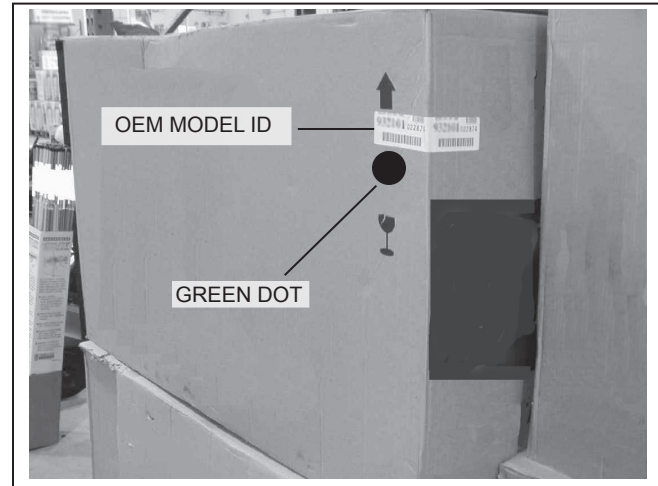

Figure 4
3. **If the product is not affected**, apply a BRIGHT GREEN 1" (25mm) diameter self-adhesive label (if labels are not available, a GREEN paint pen may be used) below each of the OEM's model identification decal or markings on the box containing the **unaffected** product (this may be as many as 4 locations per box - see fig. 4). Remember to record all OEM numbers and Tecumseh Engine Model, Specification, and COMPLETE D.O.M. Numbers and submit them with your warranty claim and log sheet. This unit is now available to sell.
1. Crated/Boxed product that has been inspected or repaired will have a GREEN circle or self adhesive dot approximately 1" (25mm) diameter on the box. This will be located directly below the manufacturer's model/serial identification number (fig. 4). This mark identifies the product as **GOOD** and may be sold and used.
9. Place a 1" (25mm) diameter self adhesive GREEN dot (available at any office supply store) on the outside of the box below any OEM model/serial number location (this may be up to four per carton) as shown in fig. 4. If a self adhesive dot is not available use a GREEN paint pen and place a 1" (25mm) diameter circle in those locations (fig. 4).